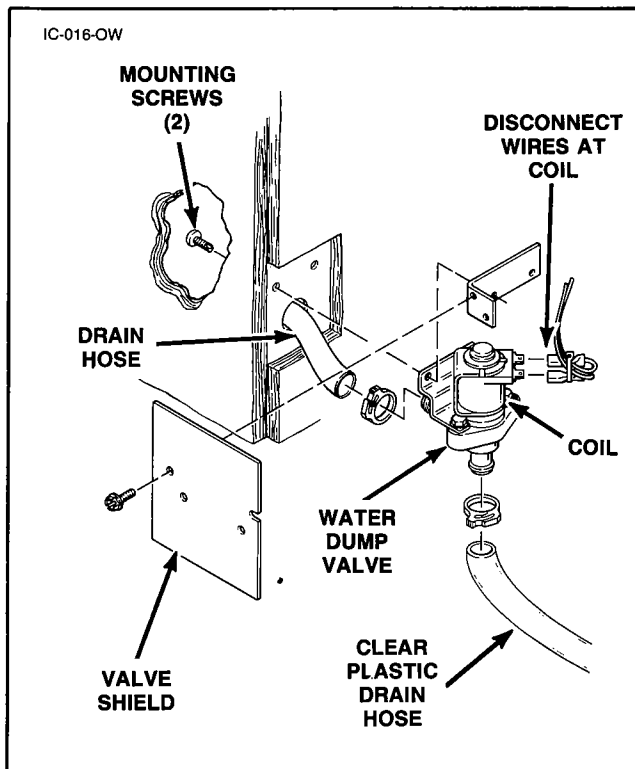

FIGURE 17 WATER DUMP VALVE REMOVAL
3. Check clear plastic outlet drain hose of dump valve, Figure 17, for leakage while the ice machine is in the freeze mode. Dump valve should be open throughout the harvest mode. (If the water flow through the dump valve is restricted during the harvest mode, water will continue to run up to the distribution tube.)
REMOVE WATER DUMP VALVE (FIGURE 17)